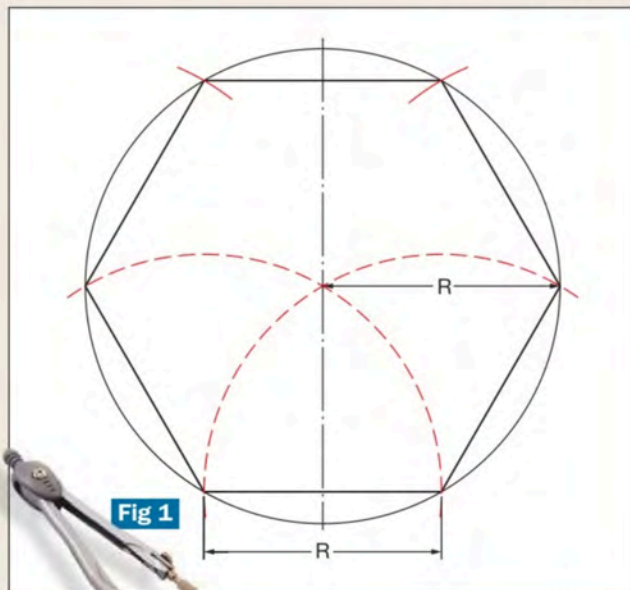

Fig 1
■ If you know the length of the side of the hexagon you want to construct, set your compasses to this dimension and draw a circle of that radius (R). Keep the same setting on the compasses and step off arcs round the perimeter of the circle. The sixth arc will return you to your starting point. This will happen with any circle of any radius: that's geometry for you! Connect adjacent arcs with a straight line (a chord) to draw out the hexagon, **fig 1**. Note that its internal angles are all 120°.
I started by marking out the design roughly on one face of the blank that would become the central turned column, **fig 1** and **photo 2**. I also marked the position of the mortise on each face, **photo 3**. It was a lot easier to cut these with a mortising machine while the wood was still square, **photo 4**.